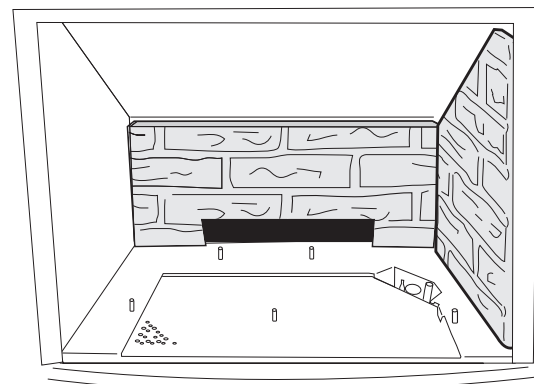

Figure 41. Install Side Panel
- 5. Install a Side Panel.** Tilt the panel, bottom edge first, into position against the side wall. The panel will stand on its own against the wall, fitting snugly between the rear panel and the front wall of the firebox. Fig. 41.